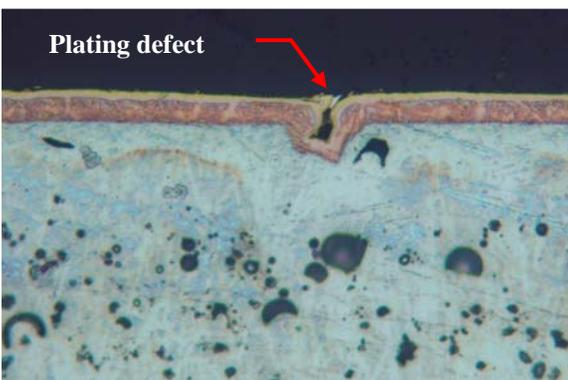

Figure 6: Cross-section of plating defect.
- Metallic plating on plastic substrates (*Figure 6*)